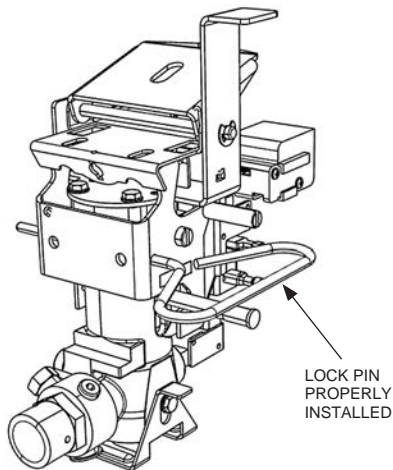

FIGURE 5-34
- ▶ 12. Remove cocking lever and fully insert Lock Pin (Part No. 438031) through the hole in the trip lever on the left side of the release. (The release mechanism cannot be actuated, nor can enclosure cover be replaced until the lock pin is removed.) See Figure 5-34.